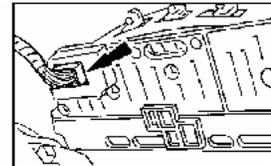

Figure 4.
- E. Disconnect the two electrical cables from the cluster by pushing the tabs in while simultaneously pulling connector from the cluster and remove the entire cluster panel. (See figure 4)